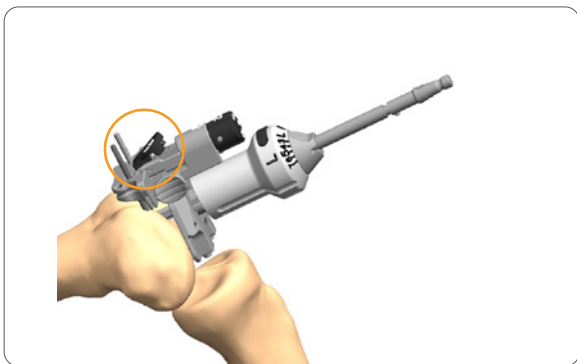

Figure 9
2. Push the button on the Valgus Bridge (**Figure 9**) to remove the alignment assembly from the incision site. Only the distal cutting block should remain on the femur.